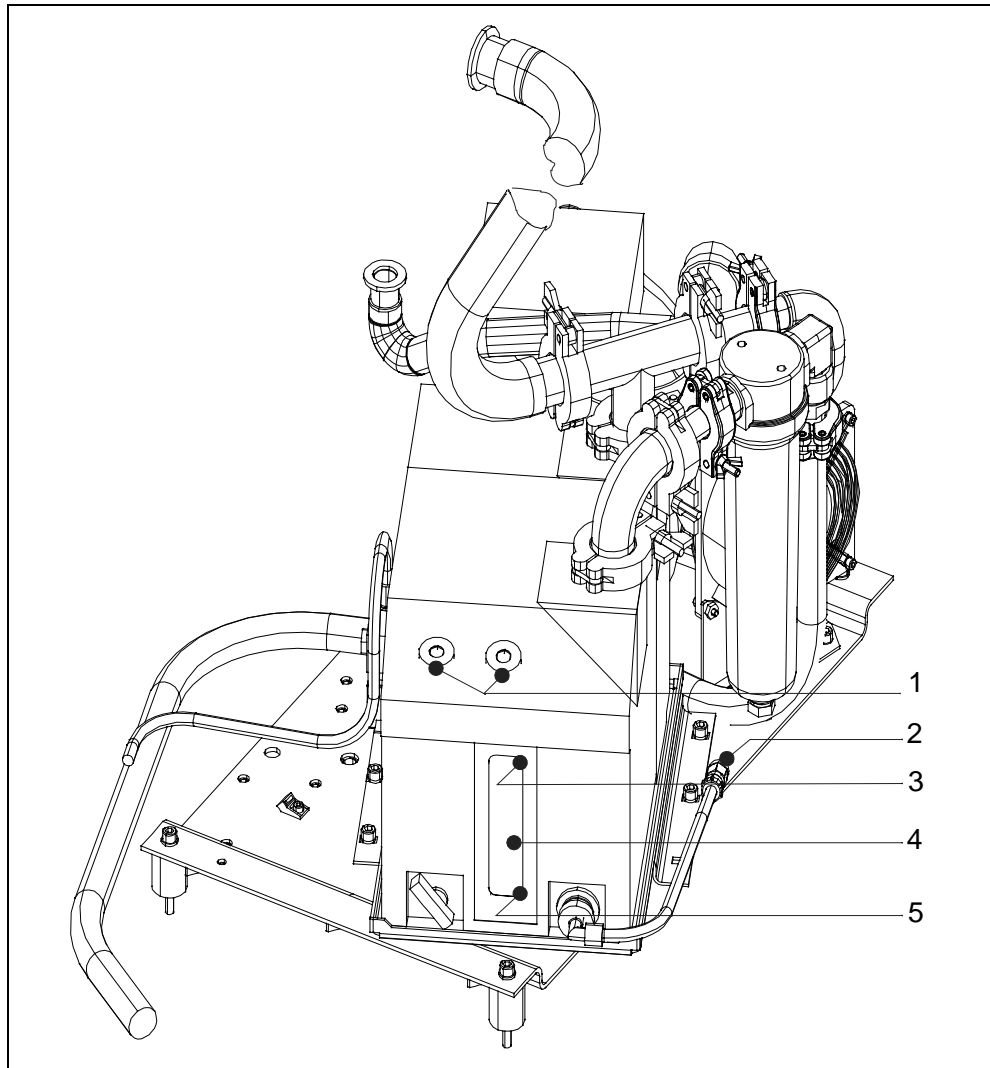

Fig. 9-6 Oil change for the D16 B
Through the oil level viewing glass of the backing pump D16B the oil level and the colour of the oil can be checked visually. The oil level of the vacuum pump must be within the minimum and maximum marks. For this refer to Fig. 9-6/3-5.
- Unscrew oil fill plug Fig. 9-6/1 from the oil fill opening and top up fresh oil up to the maximum level. The maximum amount of oil is 0.8 litres.